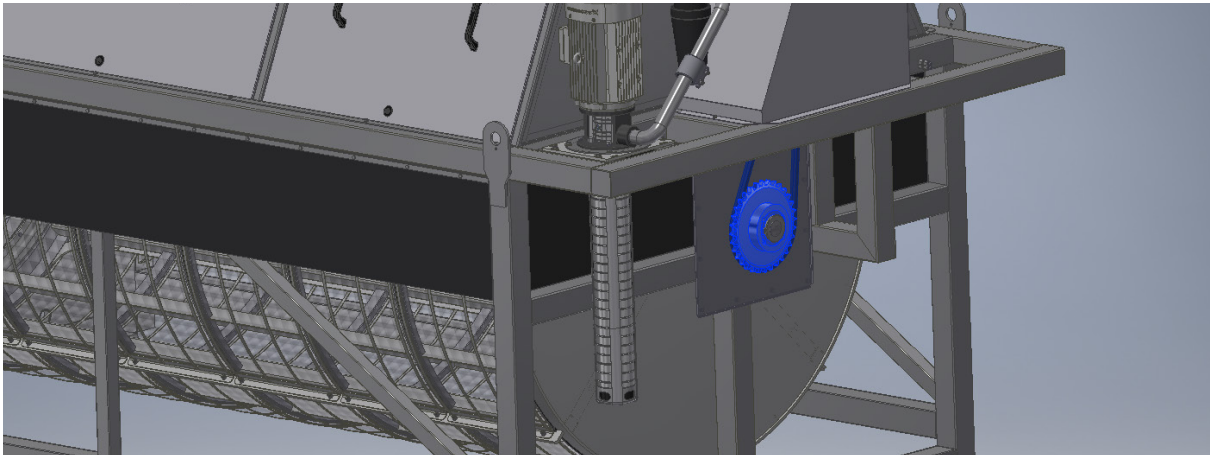

Figure 2.3 Removing steel sprocket and tapered lock.
8. Remove the old tapered lock and sprocket from the shaft to accommodate the new hub (see figure 2.3).